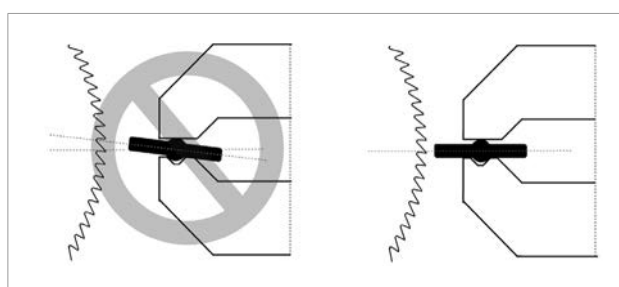
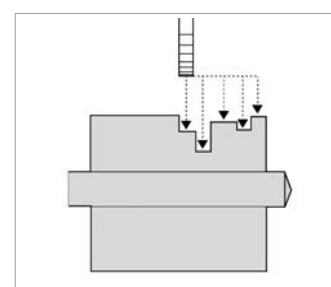

Fig. 24
Fig. 25
- 2) Close the clamps with handles (J1) making sure that the key shafts are in the V groove and check that the key bits are perpendicular to the tracer point and cutter (Fig. 24).
- 4) Turn on the machine with the switch (H).
- 5) Use the lever (A) to slowly take the carriage towards the cutter and press the switch (K) to start the motor.
- 6) Hold the handle (B) slightly raised with the key facing downwards.
- 7) Take the cut closest to the original key tip against the tracer point and lower the handle (B) to round off the cut.
- 8) Take the carriage back to come out of the cut. Move the carriage sideways and enter the next cut (Fig. 25). Do not move sideways once into the cut.
- 11) Turn off the switch (K).
- 13) When cutting is finished, turn off the switch (K) and remove the keys.